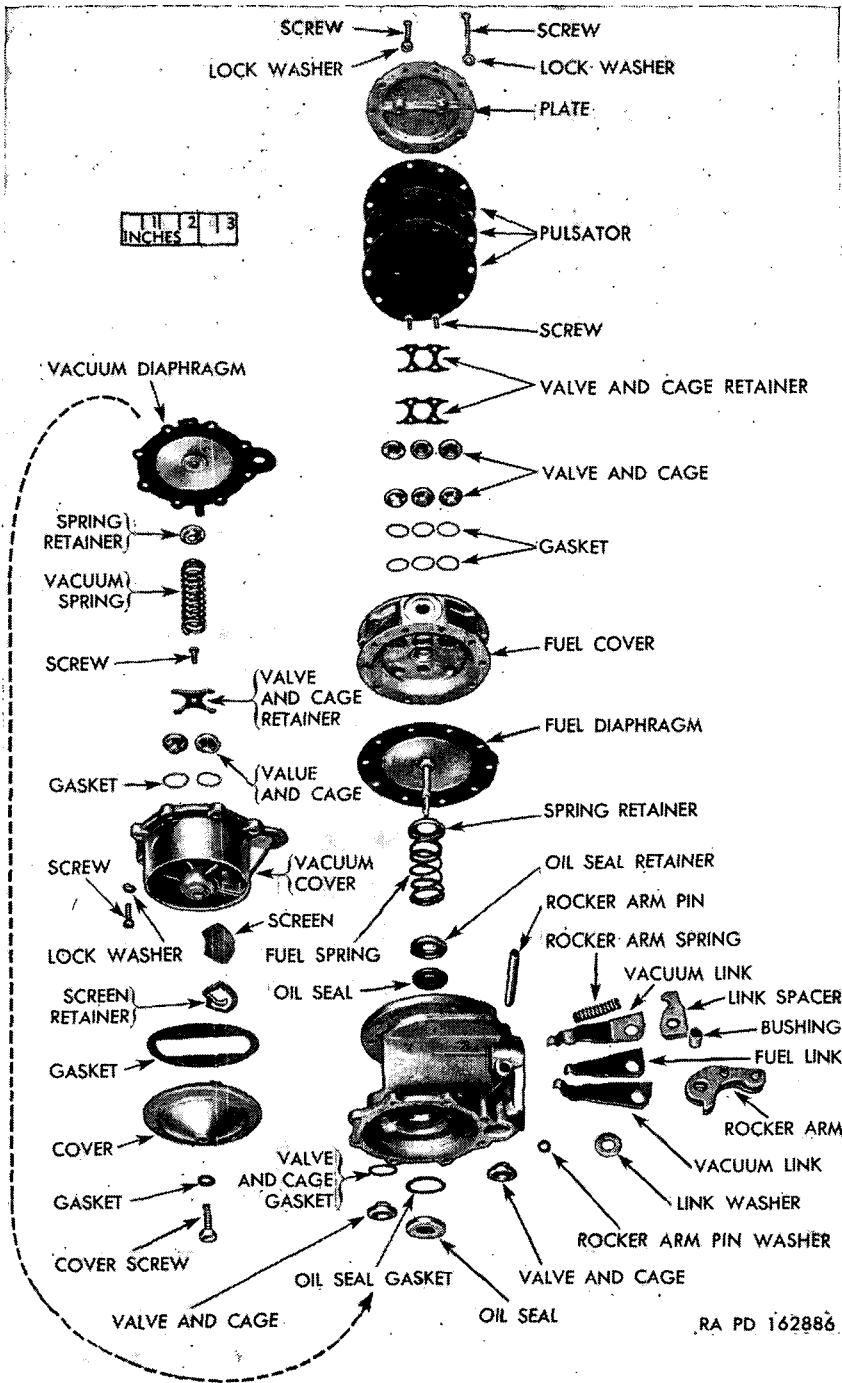

Figure 60. Fuel and vacuum pump, disassembled view (typical series CU and CY construction).
(fig. 60)
a. Assemble Body (fig. 60).
- (1) Place fuel section seal in recess of body with large dished portion of seal down. Press retainer down firmly with flat end of $\frac{7}{8}$ -inch diameter round bar. Retain by staking die cast lip in four places.
- (2) Place gasket in recess for vacuum section pull rod seal and follow with seal, narrow diameter first. Press down firmly with flat end of $\frac{7}{8}$ -inch diameter round bar. Retain by staking die cast lip in four places.
- (3) Place neoprene gasket in vacuum section valve recess next to oil seal and follow with valve and cage, spring and cage down. Firmly press valve and cage against neoprene gasket and retain by staking die cast in three places around valve.
- (4) Assemble link spacer over fuel link. Place one vacuum link on each side of fuel link. The hook ends of vacuum links should come together so they surround the fuel link. All link hooks should point in the same direction. Place assembly of links and spacer between lobes of rocker arm with one spacer washer on the outer side of each vacuum link. Slide rocker arm bushing through holes in rocker arm, spacer washers, and links.
- (5) Place pump body on bench, fuel flange down. Set rocker arm spring in position with one end over cone cast into body.